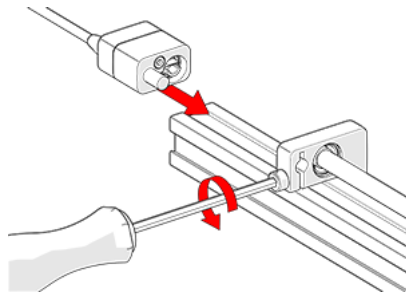

Figure 3-37 Loosen and slide post in place
1. Loosen the clamp screw on the encoder with the supplied 3 mm hex driver (see Figure 3-37 on page 66).